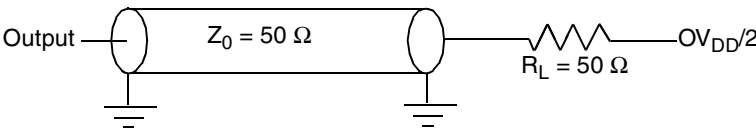

Figure 32. AC Test Load for the JTAG Interface
1. All outputs are measured from the midpoint voltage of the falling/rising edge of  $t_{CLK}$  to the midpoint of the signal in question. The output timings are measured at the pins. All output timings assume a purely resistive 50- $\Omega$  load (see Figure 32). Time-of-flight delays must be added for trace lengths, vias, and connectors in the system.
2. The symbols used for timing specifications herein follow the pattern of  $t_{(first\ two\ letters\ of\ functional\ block)(signal)(state)}$  (reference)(state) for inputs and  $t_{(first\ two\ letters\ of\ functional\ block)(reference)(state)(signal)(state)}$  for outputs. For example,  $t_{JTDVKH}$  symbolizes JTAG device timing (JT) with respect to the time data input signals (D) reaching the valid state (V) relative to the  $t_{JTG}$  clock reference (K) going to the high (H) state or setup time. Also,  $t_{JTDXKH}$  symbolizes JTAG timing (JT) with respect to the time data input signals (D) went invalid (X) relative to the  $t_{JTG}$  clock reference (K) going to the high (H) state. Note that, in general, the clock reference symbol representation is based on three letters representing the clock of a particular functional. For rise and fall times, the latter convention is used with the appropriate letter: R (rise) or F (fall).
Figure 32 provides the AC test load for TDO and the boundary-scan outputs of the MPC8555E.